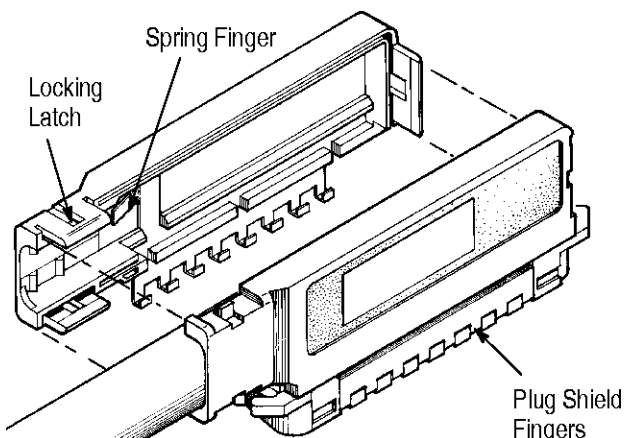

Figure 6
3.5. Shield/Cover Assembly (Figure 6)